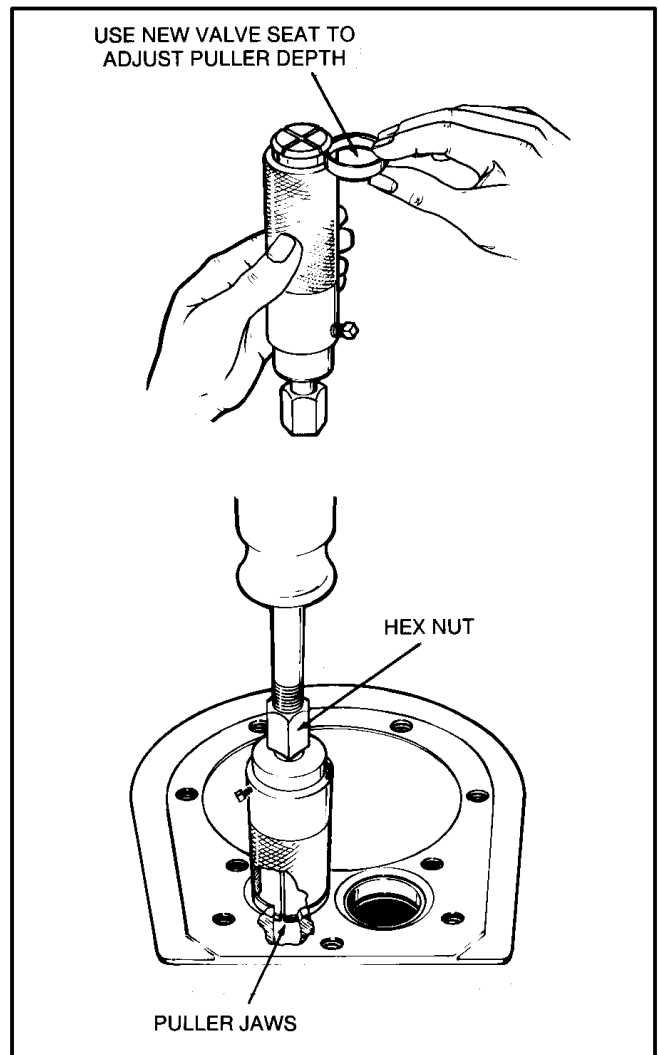

FIGURE 10-5. VALVE SEAT REMOVAL
2. Select the proper puller size as determined by the inside diameter of the valve seat. On some pullers, use a new seat as a guide to adjust puller depth as shown in Figure 10-5.